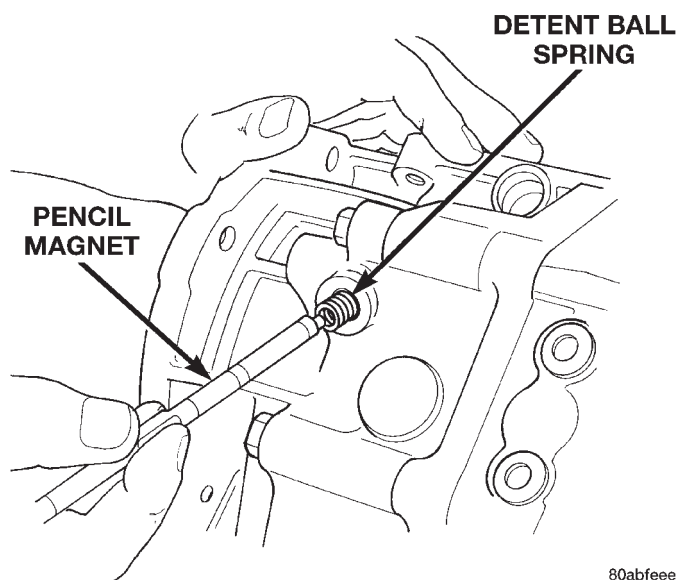
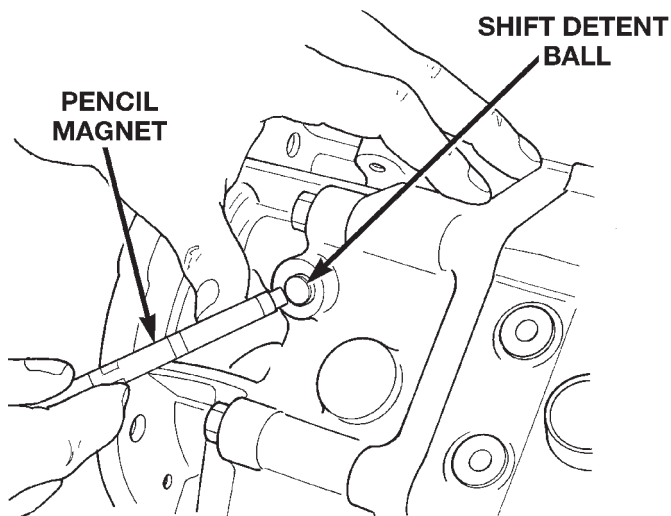

Fig. 20 Remove Detent Spring
Fig. 21 Remove Detent Ball
- (9) Remove detent spring and ball with pencil magnet (Fig. 20), (Fig. 21).